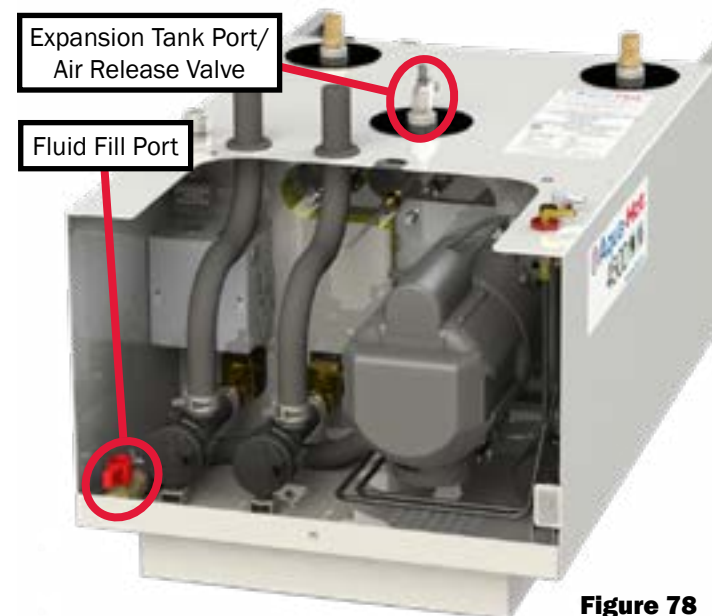

Figure 78
3. Open the Aqua-Hot's drain valve located at the front of the heater. Reference Figure 78.